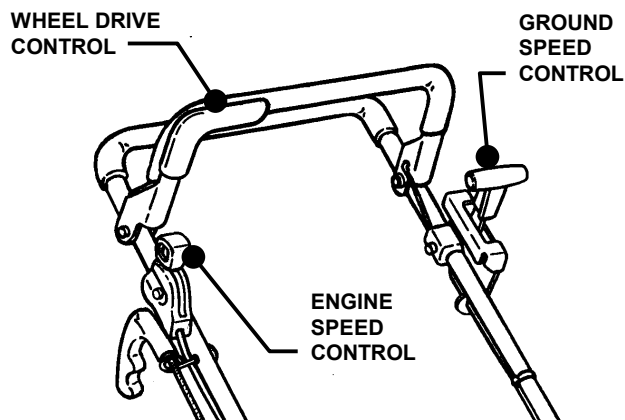

FIGURE 2.5
1. Move ground speed control to the desired speed position. See Figure 2.5.
IMPORTANT: Forward motion of machine must be stopped before changing position of the ground speed control. See Figure 2.5.